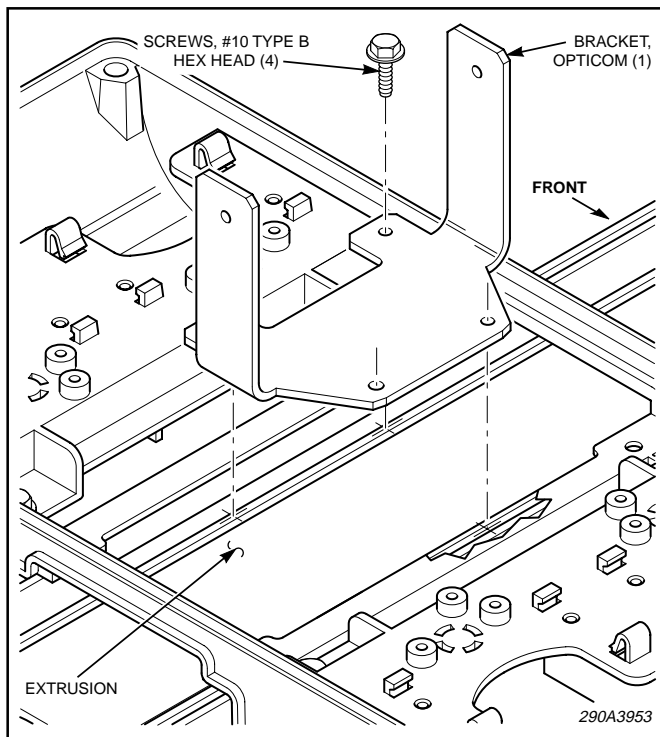

Figure 1.
3. Center the bracket in the center section as shown in figure 1. Secure the bracket to the extrusion using the three #10 hex head screws.